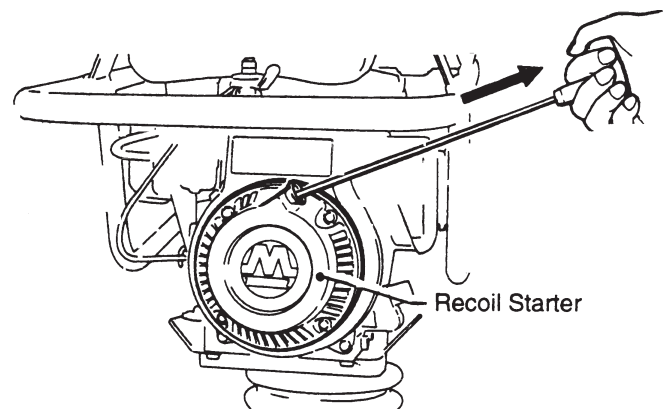

Figure 10. Recoil Starter
4. Grip the recoil starter (Figure 10) handle and pull it until you feel a slight resistance. Then pull sharply and quickly. Return the recoil starter handle to the starter case before releasing.